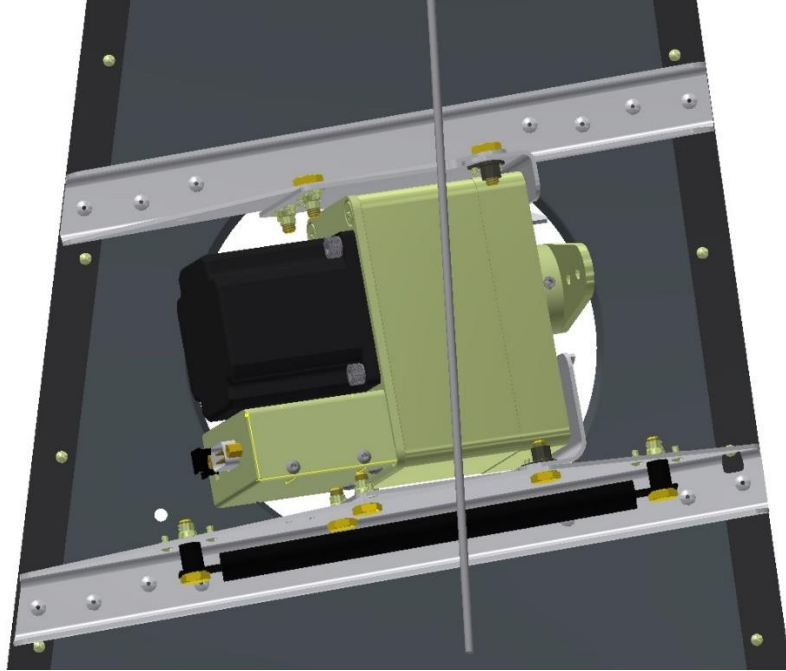

Figure 3-6
- 5.2. Position the bracket assembly so that it is equally spaced left to right from the edge of the horizontal bulkhead and forward and aft so that the servo is not in contact with the rim of the hole. See figures 3-6, 3-7, and 3-8.